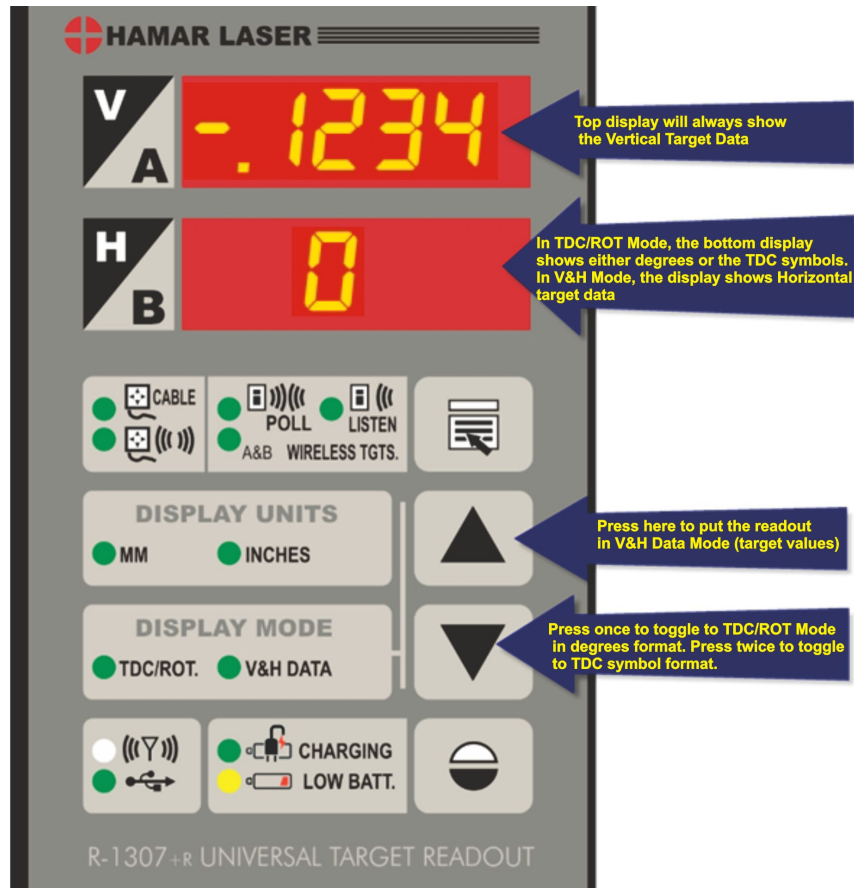

Figure 9 – Using the R-1307+R in TDC/ROT Mode
3. Press the **Down Arrow** on the R-1307 to activate TDC/ROT mode (see Figure 9). The **H** display indicates the rotation levelness of the target and the **V** display indicates the Vertical axis data.